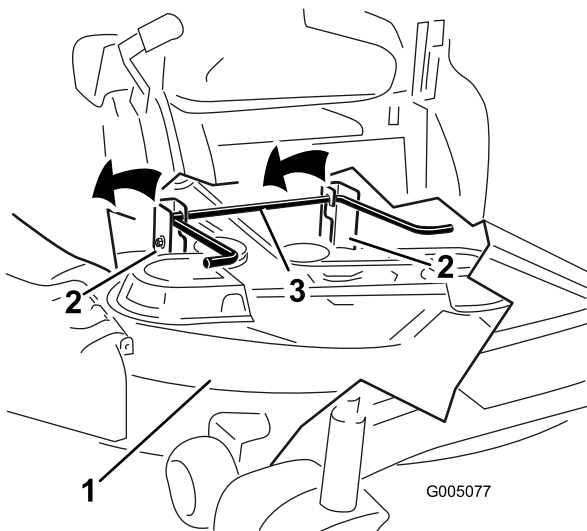

Figure 55
5. Lift the rear of the mower deck and guide the hanger brackets over the rear lift rod (Figure 55).
6. Lift the mower deck and hanger brackets clear of the rear lift rod and lower the mower carefully to the ground (Figure 55).